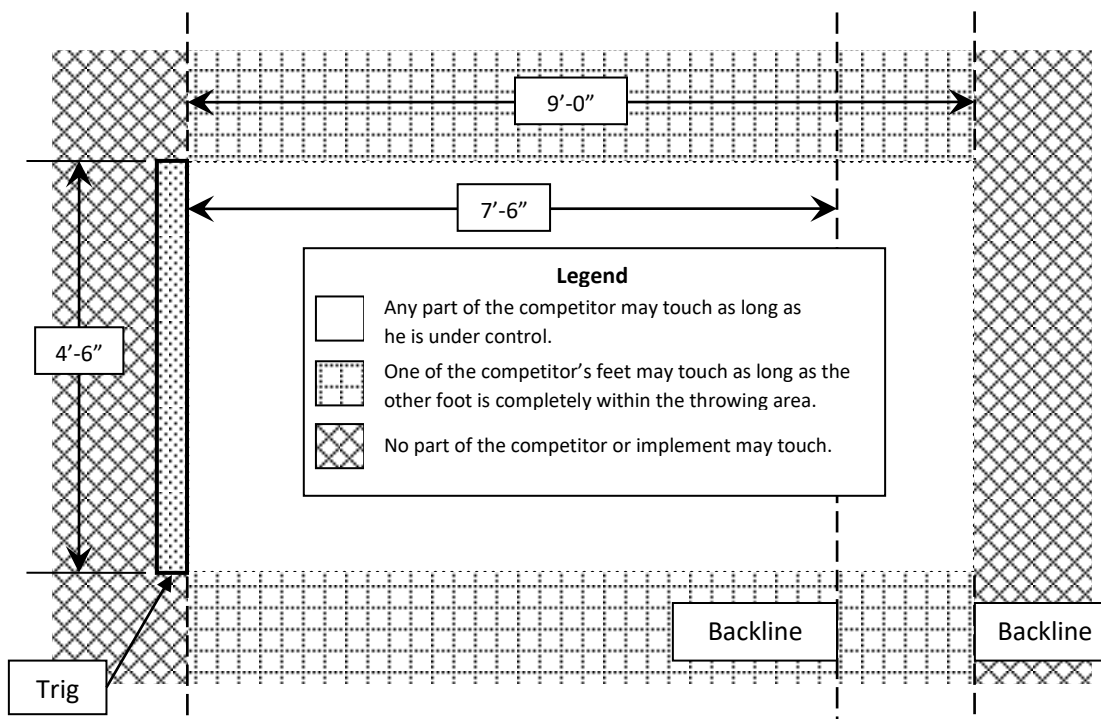

Figure 1. Trig, Top View
2.1.10. A throw will count as a foul if the competitor touches the ground as defined in Figure 1. Trig, Top View or any surface of the trig other than the edge facing the throwing area. One of the competitor's feet must always remain in the throwing area either on the ground or in the space above the throwing area.